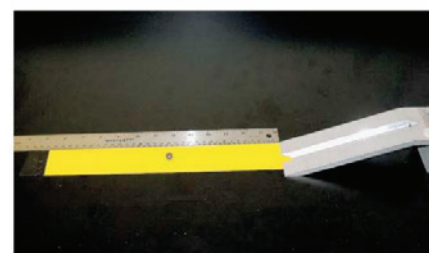

Figure 2. Rolling ball test apparatus and specimen showing distance of roll that is measured.
1. Use a rolling ball test track (see Fig 2) or build your own ramp following steps 2 and 3 below.